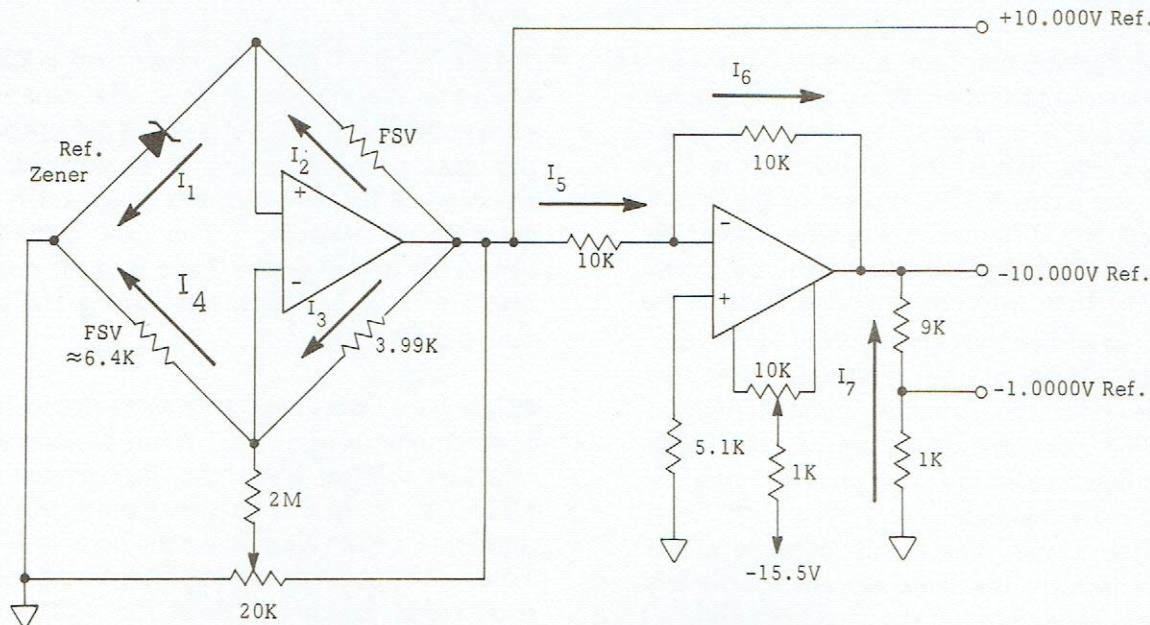

Figure 4B.3 - Simplified Schematic - Reference Supplies
**4B.10** The feedback network of the +10V reference supply, together with the reference zener and its biasing resistor may be looked upon as forming a simple bridge. This is shown in figure 4B.3 which is a simplified schematic of the positive and negative reference supplies. The feedback network sets the forward closed loop gain of the amplifier at approximately 1.6.